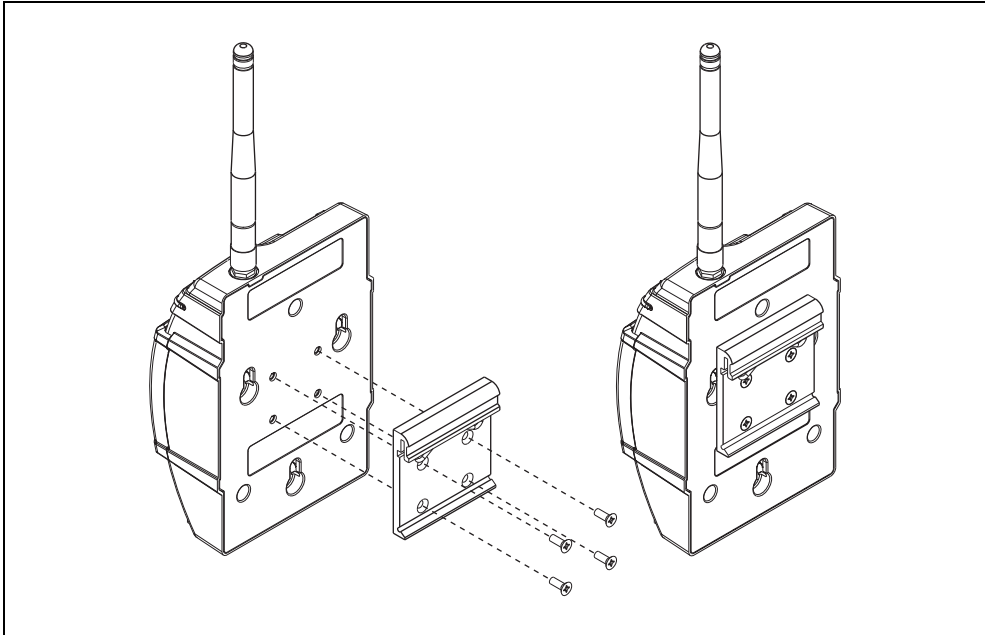

Figure 5. NI WSN-3202 Device DIN Rail Installation
1. Fasten the DIN rail clip to the NI WSN-3202 using a number 2 Phillips screwdriver and the four 8-32 \times 5/16 in. thread-forming screws that shipped with the DIN rail clip. Figure 5 shows how to fasten the DIN rail clip to the NI WSN-3202.